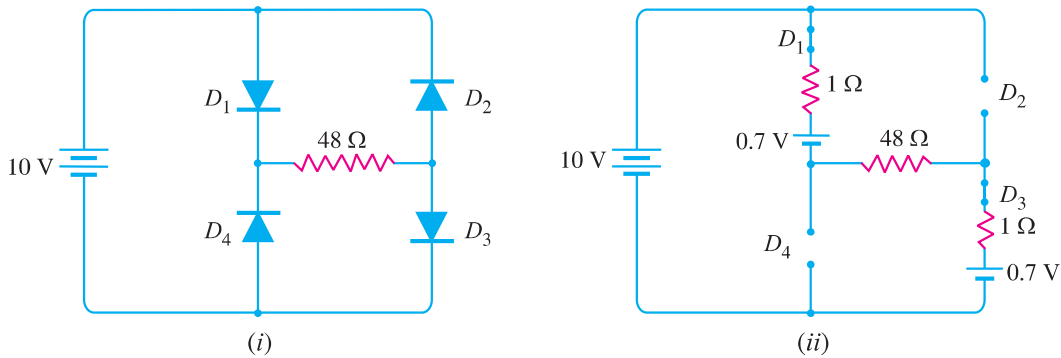

Fig. 6.11
**Example 6.4.** Calculate the current through  $48 \Omega$  resistor in the circuit shown in Fig. 6.11 (i). Assume the diodes to be of silicon and forward resistance of each diode is  $1 \Omega$ .
**Solution.** Diodes  $D_1$  and  $D_3$  are forward biased while diodes  $D_2$  and  $D_4$  are reverse biased. We can, therefore, consider the branches containing diodes  $D_2$  and  $D_4$  as "open". Replacing diodes  $D_1$  and  $D_3$  by their equivalent circuits and making the branches containing diodes  $D_2$  and  $D_4$  open, we get the circuit shown in Fig. 6.11 (ii). Note that for a silicon diode, the barrier voltage is  $0.7 \text{ V}$ .